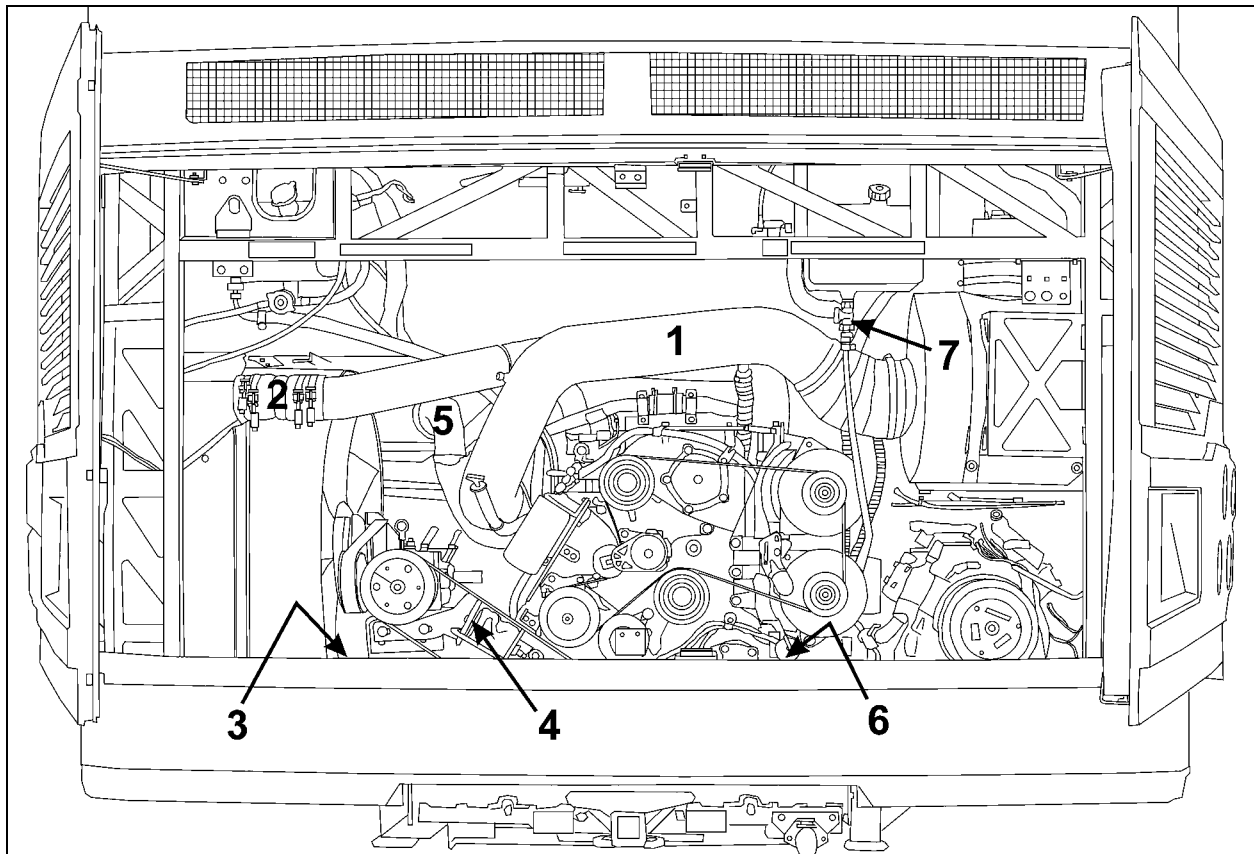

FIGURE 17: ENGINE COMPARTMENT XLII MTH (TYPICAL)
6. Disconnect and remove the engine-air intake duct mounted between air cleaner housing and turbocharger inlet (1, Fig.17).
7. Disconnect and remove the air intake duct mounted between the air cooler outlet and the engine intake (2, Fig. 17).
8. Disconnect and remove section of coolant pipe assembly mounted between the radiator outlet and the water pump inlet (3, Fig. 17).
10. Disconnect the electric fan-clutch connector, close to the water pump (Fig. 17).
11. Dismantle the air bellows from the upper bracket of the fan-drive assembly tensioner. Remove the upper bracket (4, Fig. 17).
13. Disconnect and remove the air intake duct mounted between the turbocharger outlet and the air cooler inlet (5, Fig. 17).
20. Disconnect the power steering pump supply and discharge hoses. Cap hose openings immediately to limit fluid loss. Remove retaining clips from cradle (6, Fig. 17).
21. Disconnect the oil delivery hose from the valve located at the reserve tank drain (7, Fig. 17).